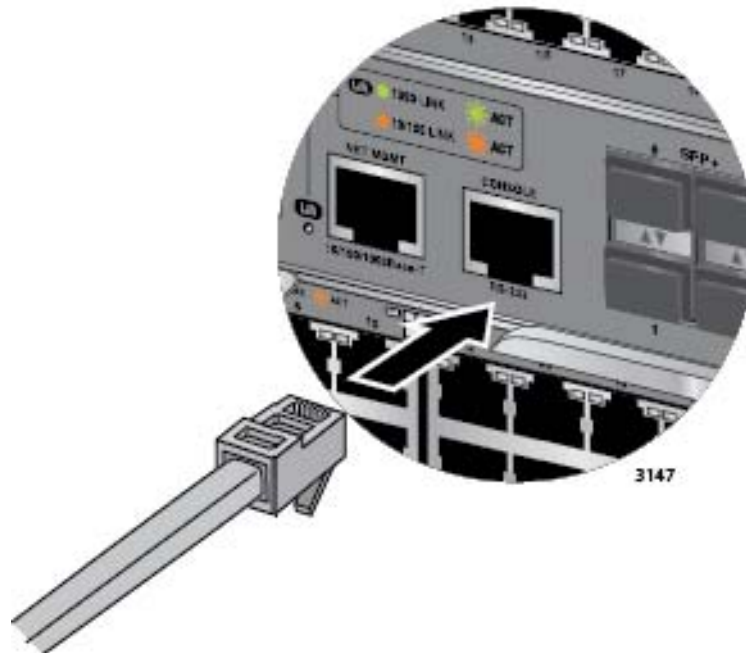

Figure 147. Connecting the Management Cable to the Console RS-232 Port
1. Connect the RJ-45 end of the management card included with the AT-SBx31CFC960 Controller Fabric Card to the Console RS-232 port on the front panel of the AT-SBx31CFC960 Card, as shown in Figure 147. If the chassis has two controller cards, you must connect the cable to the Console RS-232 port on the active card. To determine which card is the active card, examine the M/S LEDs. The LEDs are green on the active card and amber on the standby card.